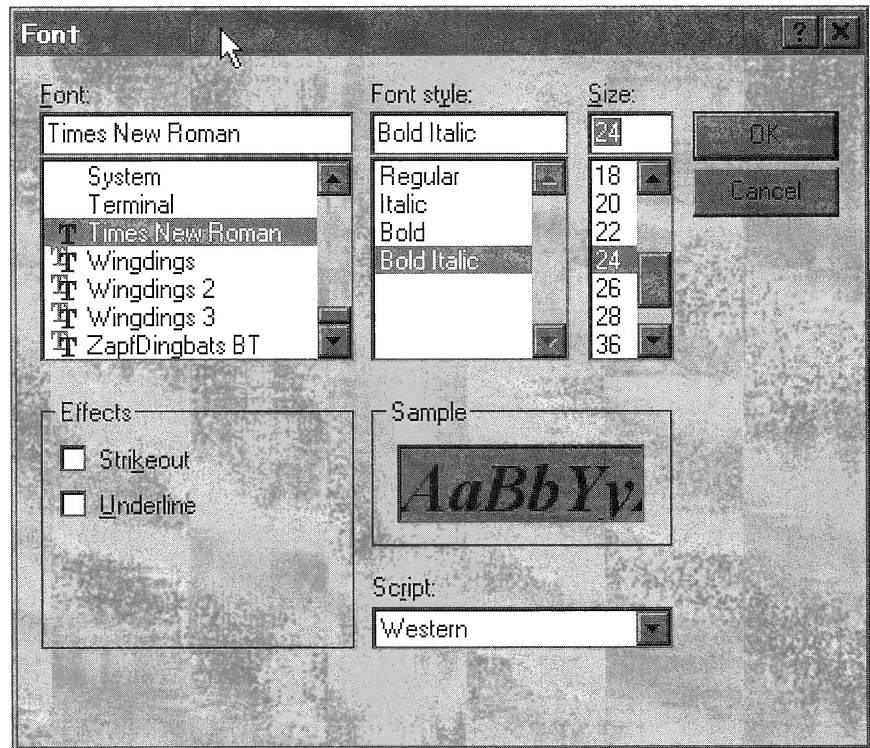

Figure 24: Font selection dialog
- ❑ Press the **Edit** button which displays the Font dialog as seen in Figure 24.